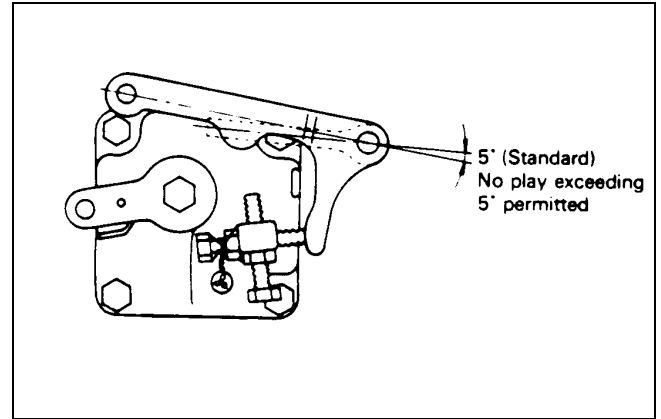

Figure 35
- C. Install the governor spring lever and speed control lever so there is a minimum play of angle between levers (Fig. 35) .